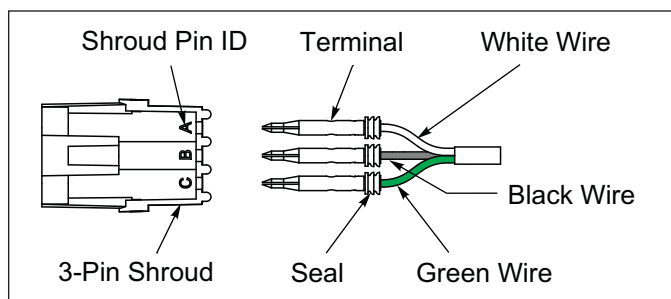
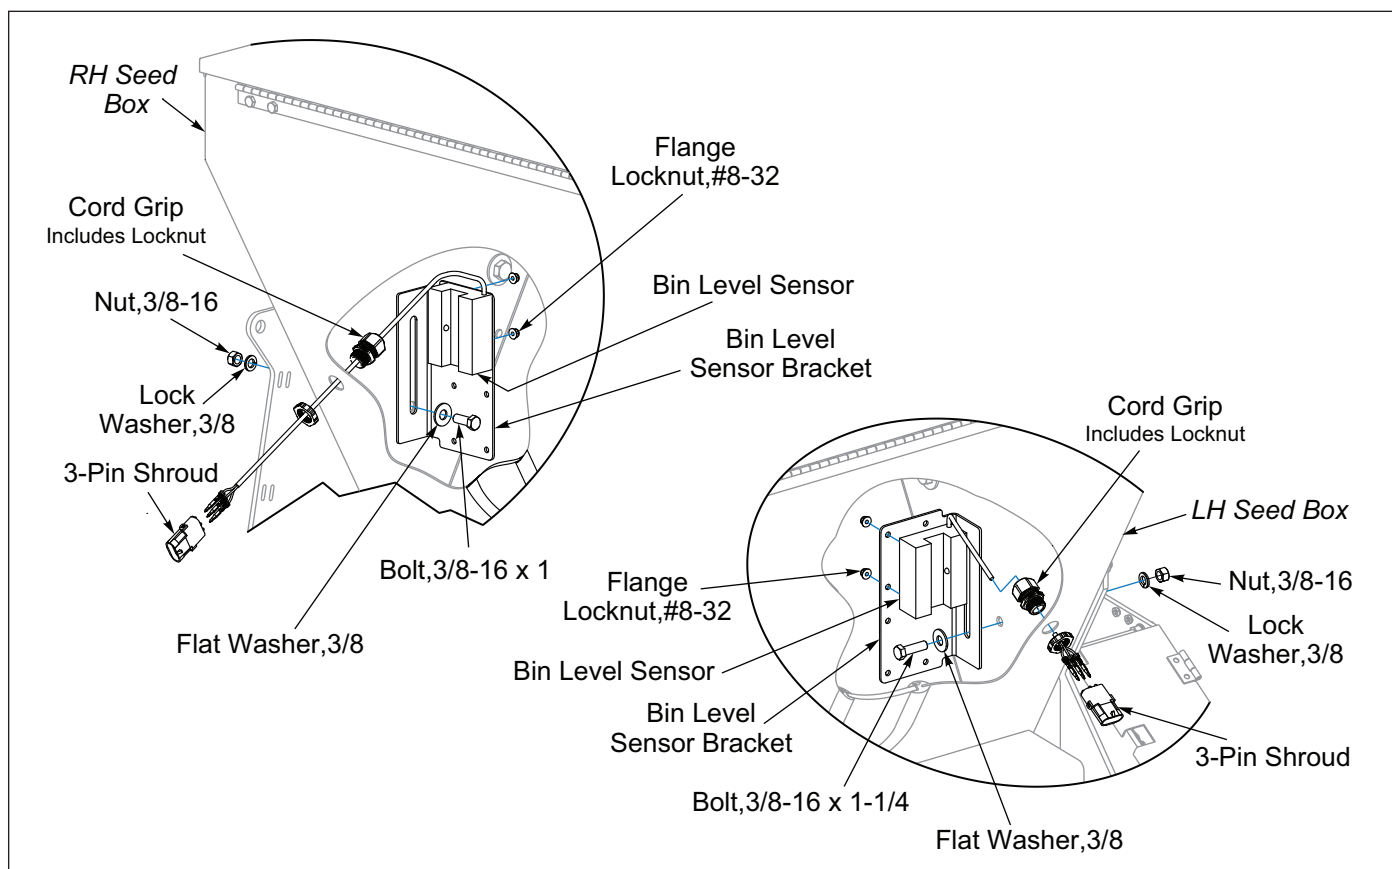

Figure 2-31: Bin Level Sensor Wire Detail
Figure 2-36: Brillion Elite Mini Monitor - Bin Level Sensor Bracket
6. On the inside at either end of the Seed Box, install a Bin Level Sensor Bracket with the Seed Box Mounting 3/8-16 Hardware. See **Figure 2-36**. Determine the desired level for the alarm to be indicated on the Brillion Elite Mini Monitor and assemble the Bin Level Sensors to Bin Level Sensor Brackets with sensor provided hardware and #8-32 Flange Locknuts. If more adjustment is needed, the Bin Level Sensor Brackets can also be raised or lowered to the desired seed level. Install Cord Grips from the inside of the Seed Box out and secure with supplied Locknut on the outside of the Seed Box. To get the Sensor Connector outside the Seed Box, feed the terminals through the Cord Grip. Install the terminals into the 3-Pin Shroud labeled "A", "B" and "C" as follows "A" White, "B" Black, "C" Green. See **Figure 2-31**. Inside the Seed Box, provide enough cord slack to the Bin Level Sensor Cord to allow for future adjustments of the Sensor. Secure the Bin Level Cord by tightening the Cord Grip Compression Nut. Connect both Bin Level Sensors to the Seeder Harness.